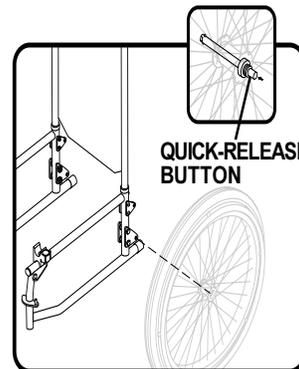

Figure 7. Removing the Drive Wheel
NOTE: You can also remove the drive wheels to make the wheelchair more compact. See figure 7.
1. Press the quick-release button and pull the drive wheel off. See figure 7.
WARNING! Prevent injury. If you remove the drive wheels, make sure the quick-release buttons snap into place when reinstalling a wheel. See figure 7.
1. Remove the drive wheel from the frame. See figure 7.